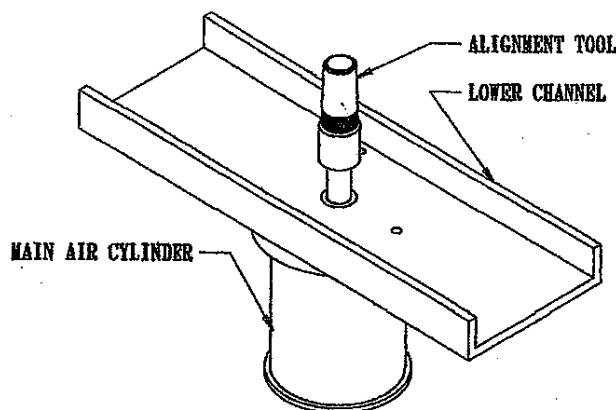

FIG 1
- Place the alignment tool on the shaft of the main air cylinder. Refer to Fig 1.